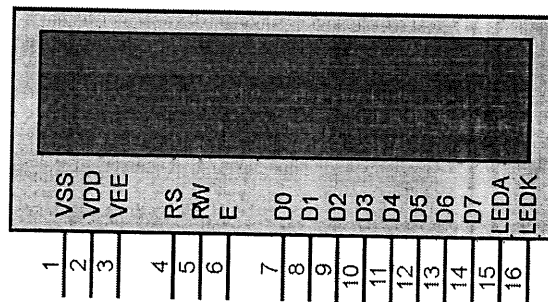

Figure 1: LCD pin out
- a) Figure 1 shows the pin out of the 16x2 LCD. **Describe** the function of VSS, VDD, VEE, RS, RW, E and data bus (D0-D7) at LCD.